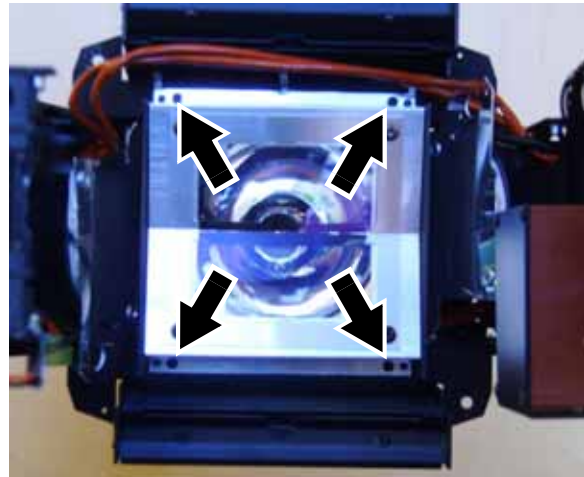

Figure 63
68. See Figure 63. Remove the 4 retaining screws (arrowed) from the heat shield assembly and remove the assembly. You will need to open the bend-over tabs and move the thermoswitch wiring out of the way for access to two of the screws. Keep the screws for re-use. Now is a good time to clean the reflector using 99.9% isopropyl alcohol.